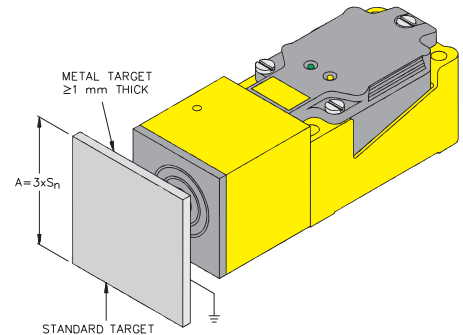
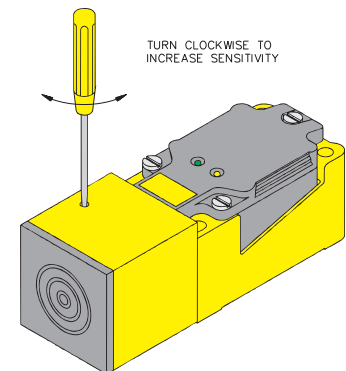

Figure 1
Figure 2
- 2. Adjustment of the potentiometer** – turning the potentiometer in a clockwise direction increases the sensitivity of the sensor. The potentiometer is factory-set for an operating distance of 0.7 to 0.8 S_n to a grounded standard target (Figure 1). It should be adjusted in increments of no greater than a quarter-turn (Figure 2). Increasing the sensitivity results in a greater operating distance to both conductive and non-conductive targets.